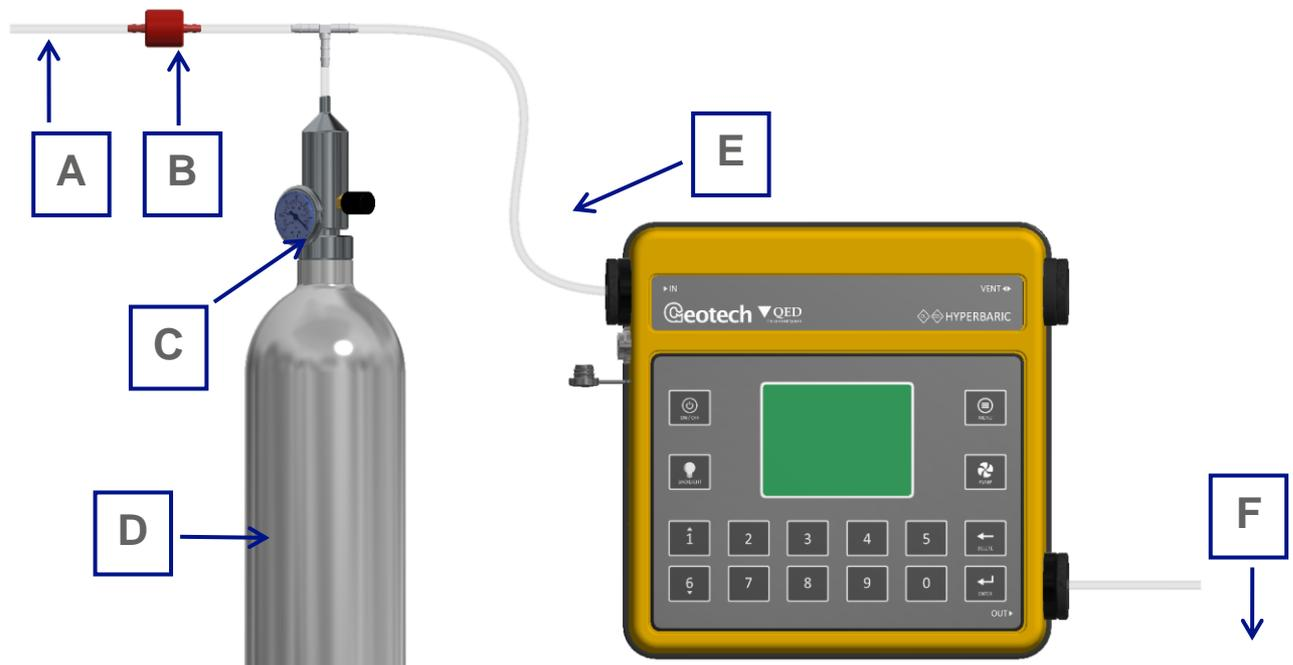

Figure 1 – Gas bottle set-up
Figure 1 – Gas bottle set-up displays the required set-up for the equipment to successfully gas check or calibrate the analyser.
**STEP 2:** Set-up the calibration equipment as per Figure 1 – Gas bottle set-up.